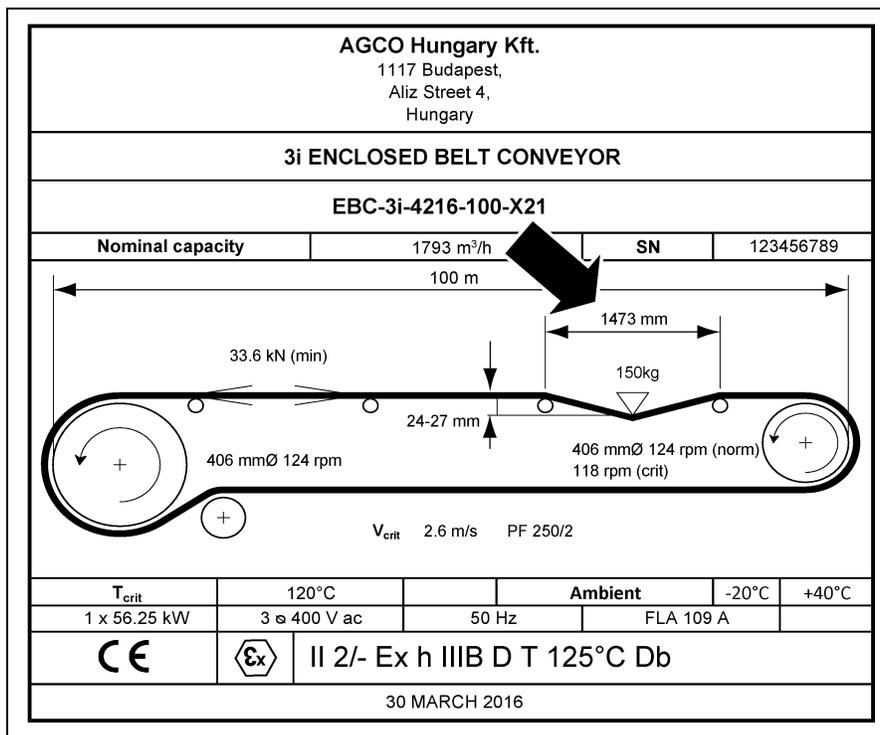

Figure 4U Correct Support Spacing for Belt Tensioning
5. Select a position at least three (3) idlers away from the head or tail pulley.
6. The support spacing should be as given on the rating plate. *(See Figure 4U.)*